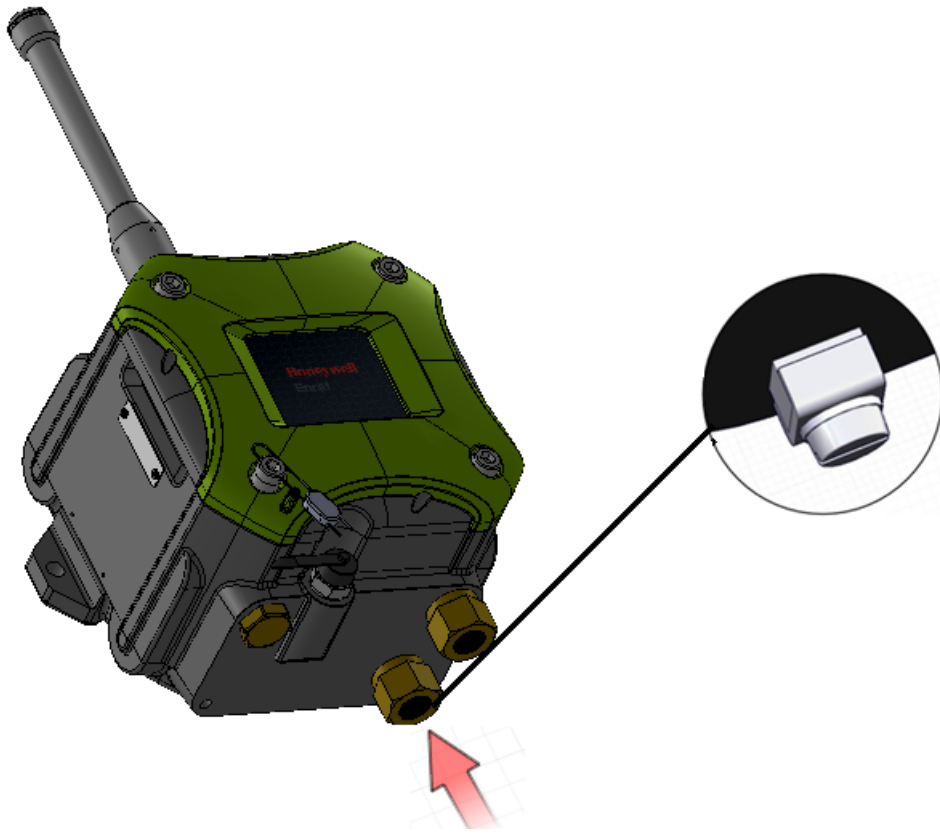

FIGURE 3-5 The grounding connections for the WFI
Inside the enclosure, 2 Protected Earthing (PE) or Mains input earth points and 1 external point is available to connect to the field earth point. See FIGURE 3-5.